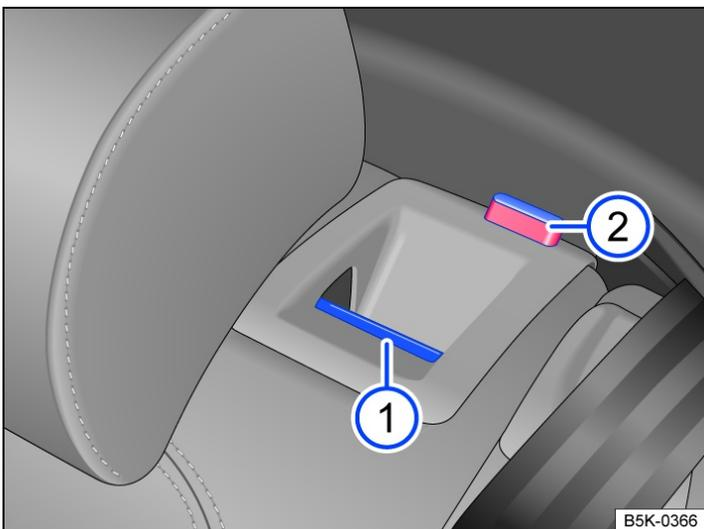

Fig. 2 In the rear seat backrest: release button.
- Pull the release button → Fig. 2 ¹ forwards and fold the rear seat backrest forwards at the same time.
The respective section of the rear seat backrest is unlocked when you can see the red marking → Fig. 2 ².
The red marking → Fig. 2 ² should no longer be visible.